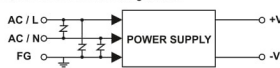

Figure 14: The connection of the Surge Absorber
(2) Shock Suppression: Shock is one kind of short-time high voltage and high energy. To prevent the shock, we should add surge absorbers between AC/L - AC/N, AC/L - FG, and AC/N - FG, which are shown as figure 14.